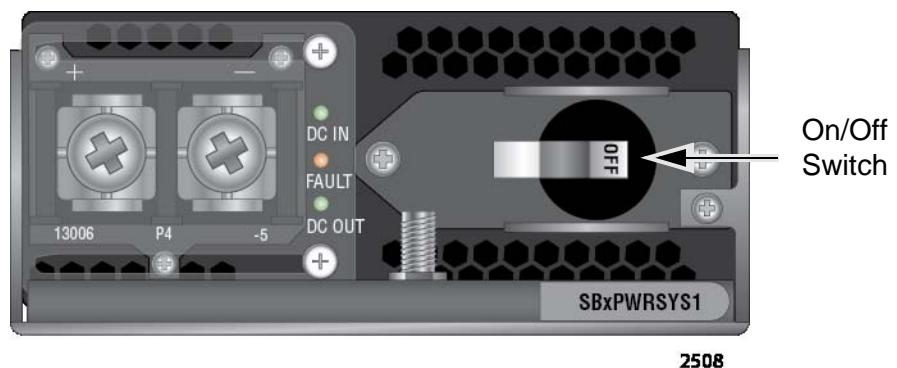

Figure 37. On/Off Switch on the SBxPWRSYS1-80 DC Power Supply
3. Verify that the On/Off switch on the power supply is in the Off position. Refer to Figure 37.